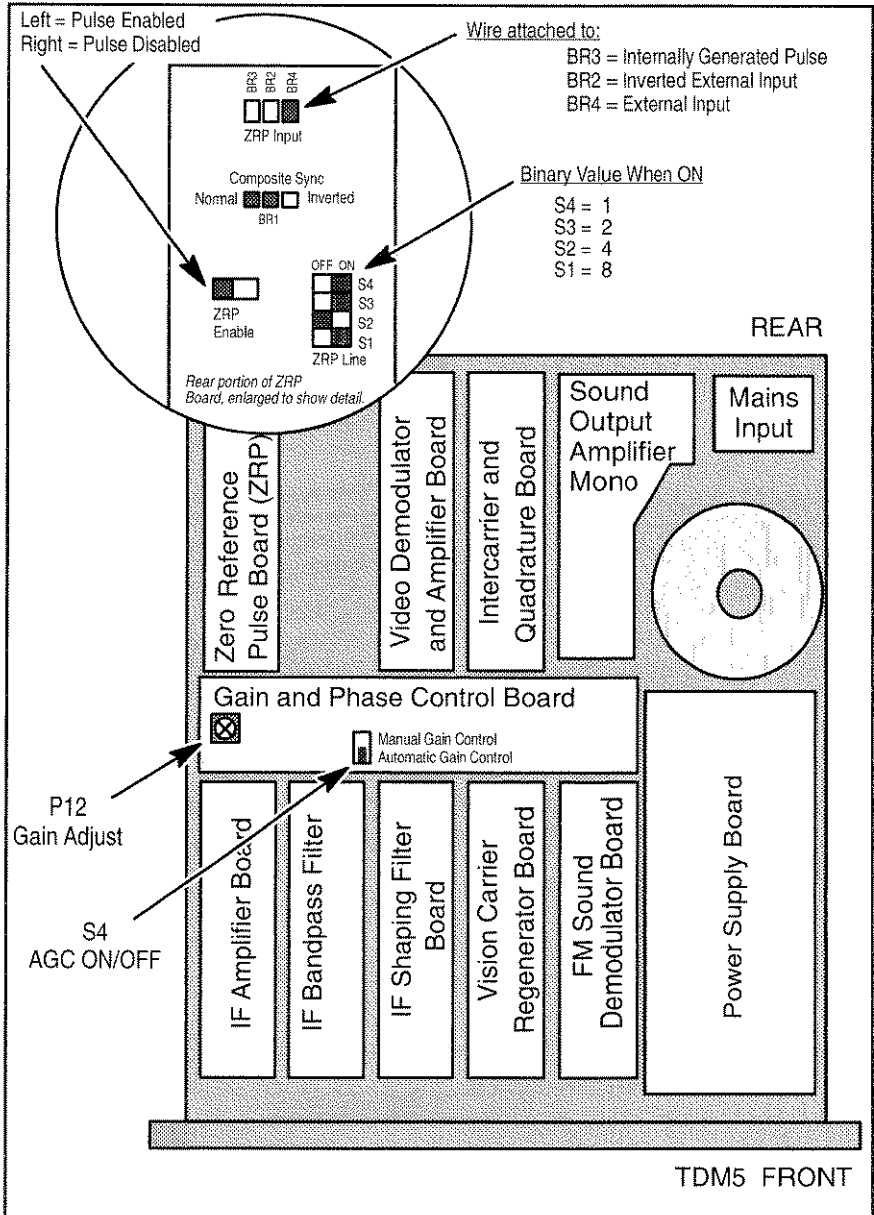

Figure C-1: Adjustment and Jumper Locations
This section contains instructions for user and preventive maintenance, and for changing internal instrument settings. The TDM5 internal layout is shown in Figure C-1.
There are three adjustments on the ZRP board. To make an adjustment, be sure that power is not supplied to the TDM5, then remove the top cover panel. Refer to Figure C-1 for locations and sample settings. Replace the cover before operating the TDM5.
To change the line on which the zero carrier pulse appears, set switches S1 through S4 for the desired line (DIP switch setting = line number minus 9). In Figure C-1, the switches are set for line 20.
The ZRP Enable switch is shipped in the enable position (to the left), as shown in Figure C-1. To disable the pulse, move the ZRP Enable switch to the disable (right) position. Setting all four switches (S1 through S4) to OFF (0) will also disable the pulse.
The Zero Carrier Reference module can be driven by an external sync signal. To select this input, move the plug on the ZRP Input jumper to the right position as shown in Figure C-1.
Be sure power is not applied to the TDM5, then remove the top cover panel. Referring to Figure C-1, locate switch S4 on the Gain and Phase Control board, and slide the switch to the Manual Gain Control position (toward the rear of the instrument). Use P12 (shown on Figure C-1) to adjust the gain. Be sure to return the switch to the Automatic Gain Control position when normal operation is desired.